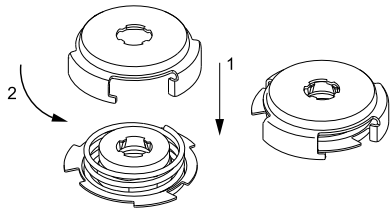

Fig. 13 Fitting the spring and driver
7. Fit spring (pos. 108) and driver (pos. 112). See fig. 13.